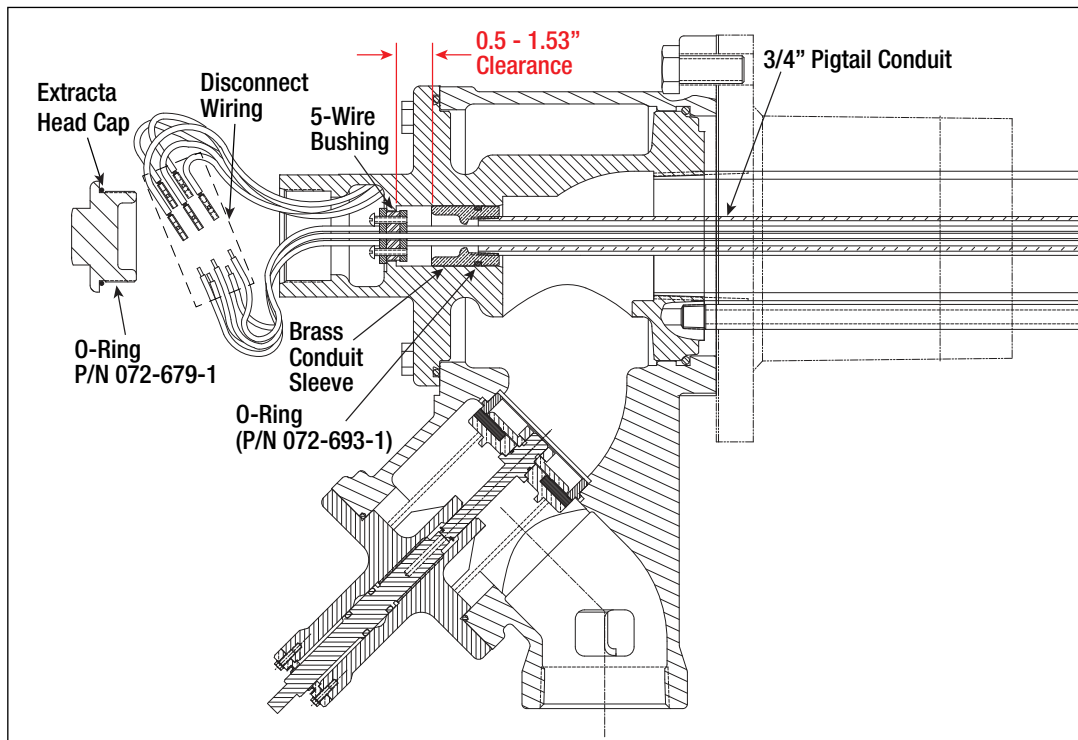

Figure 17. Extracta Head Components
4. Disconnect pigtail wiring (see Figure 17).
22. Get the new 5-wire bushing seal from the kit. Remove tape from the pigtail wires in the Extracta Head compartment and feed wires through the 5-wire bushing. Put the 14 AWG blue wires in the two smaller holes of the bushing and the three 10 AWG colored wires in the larger holes of the bushing. Install the bushing into the base of the Extract Head wiring compartment as shown in Figure 17 and tighten the two bushing screws hand tight to secure it in place.
4. Disconnect the wiring (see Figure 17).
18. Install a new o-ring (P/N 072-693-1) from the kit onto the brass conduit sleeve (see Figure 17) and lubricate with petroleum jelly.
NOTICE Check location of brass conduit sleeve. Top of sleeve should be 0.50 - 1.53" (13 - 38 mm) below shoulder in Extracta head (see Figure 17).
38. Get the 5-wire bushing seal you set aside earlier. Remove the tape from the pigtail wires in the Extracta Head compartment and feed wires through the 5-wire bushing. Put the 14 AWG blue wires in the two smaller holes of the bushing and the three 10 AWG colored wires in the larger holes of the bushing. Install the bushing into the base of the Extract Head wiring compartment as shown in Figure 17 and tighten the two bushing screws hand tight to secure it in place.